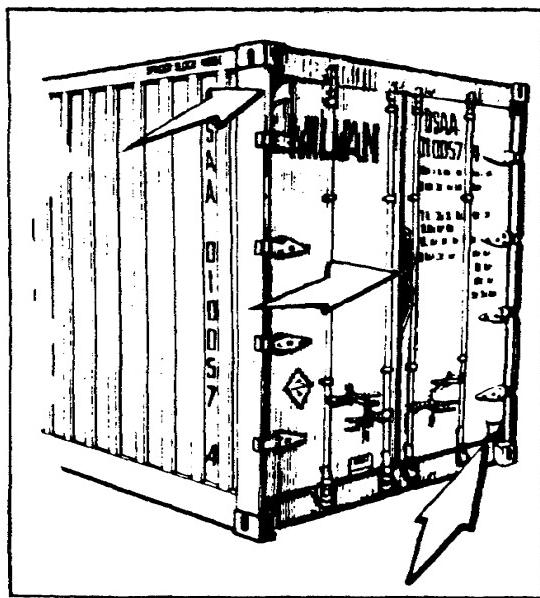

Figure 2-5. Examples of Damage Bad Enough To Reject the MILVAN.
*Item 1-Rear (Exterior).* Begin your inspection by checking the rear and the exterior of the doors of the MILVAN for any distortion, holes, or tears (figure 2-5). Any damage or improper repair that results in failure of the doors to make the MILVAN watertight-or any other defect that threatens the safety and serviceability of the MILVAN-is a cause for rejection.